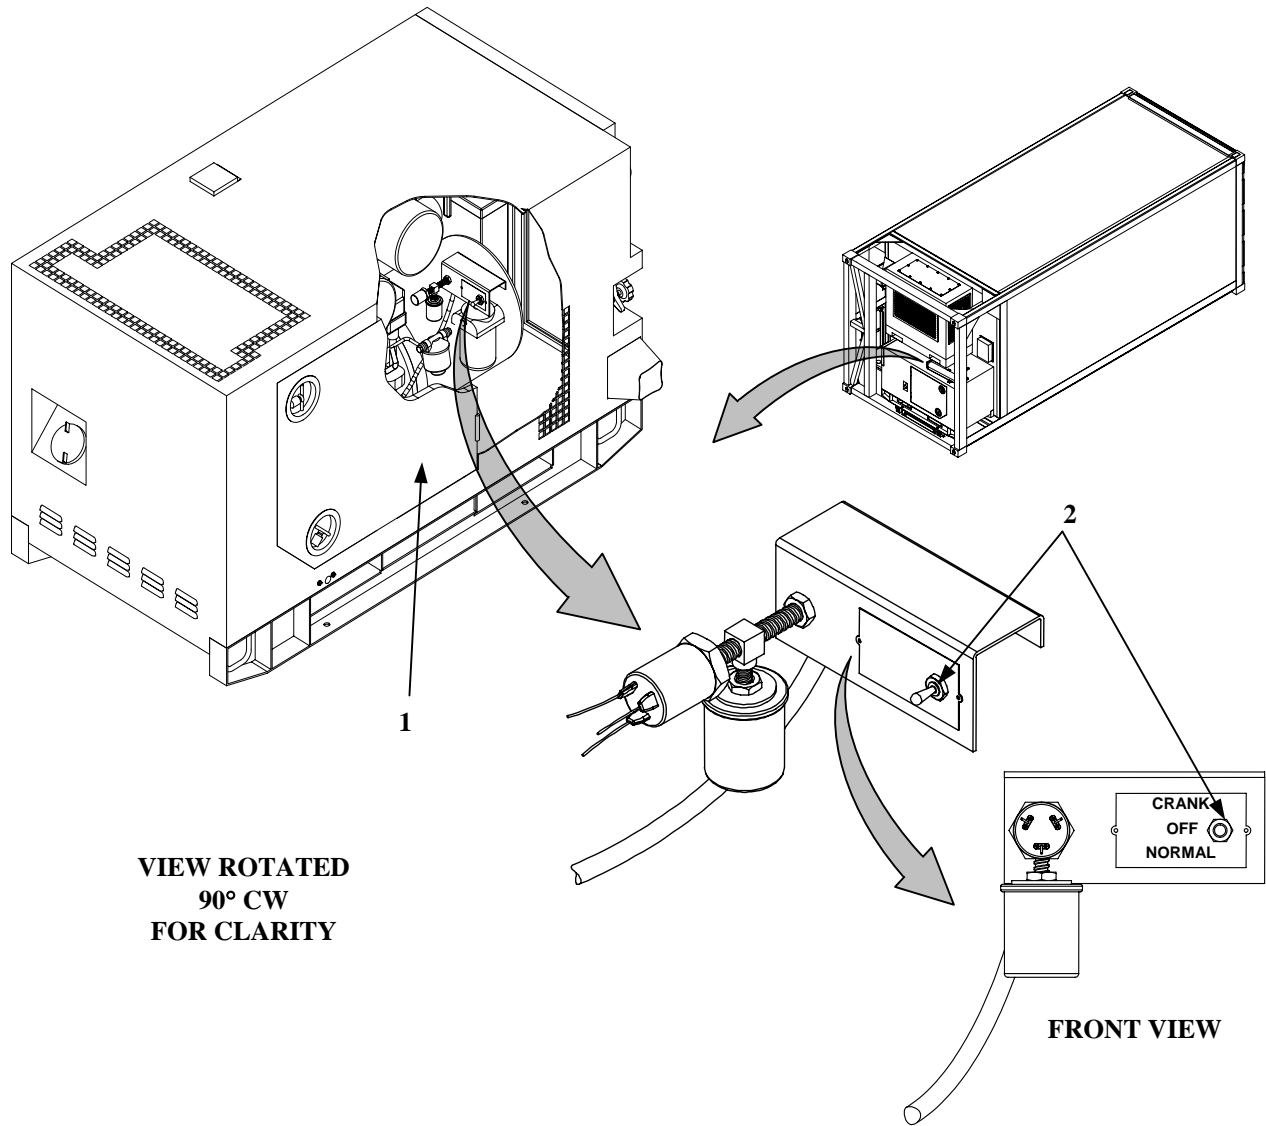

Figure 6. Generator Set Power Source (Sheet 1 of 2)
- c. Open door (1, Figure 6) and place DEAD CRANK switch (2) in the normal position.